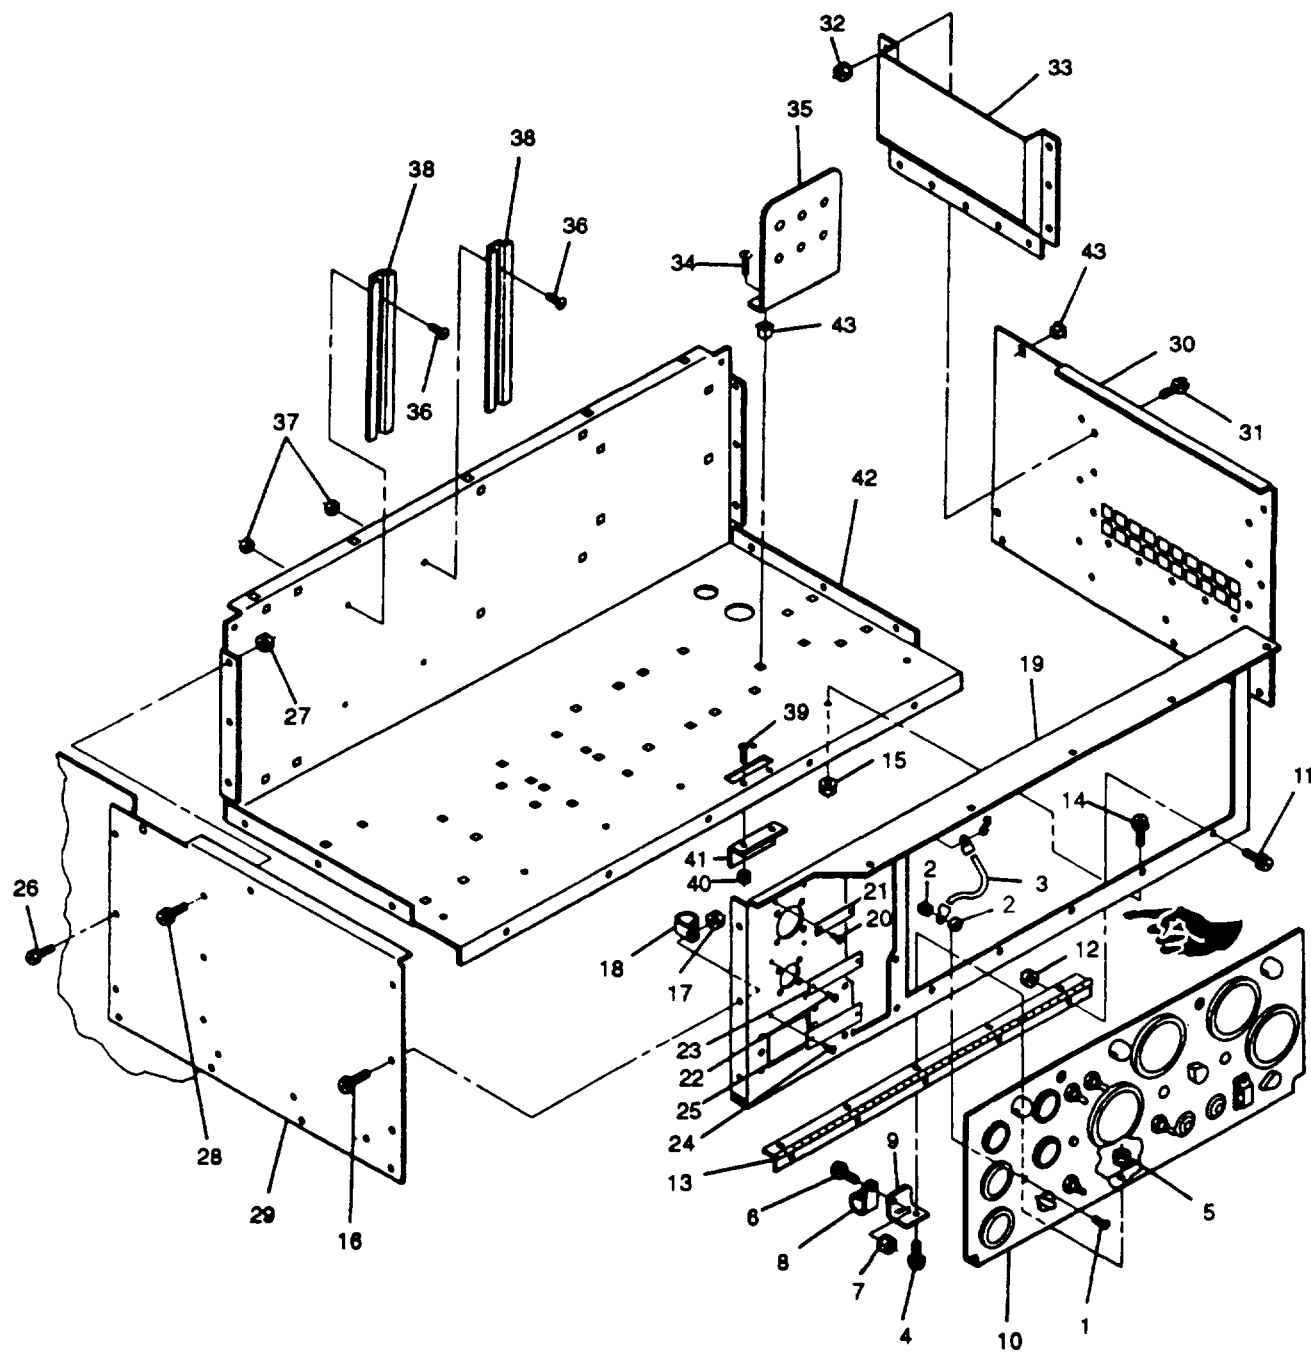

FIGURE 2-19. Control Box Panels
- Tag and disconnect all electrical leads to remaining indicators and switches on control panel(10,FIGURE2-19).
- Remove screw (1), nut (2), and strap (3).
- Remove bolts (4) and (6), nuts (5) and (7), bracket (9), clamp (8), and control panel (10) from control box assembly.
- Remove bolts (11), nuts (12), and hinge(13) from control box assembly.
Inspect control panel (10, FIGURE 2-19) for dents, cracks, loose paint, and corrosion.
Inspect control panel frame (19, FIGURE 2-19) for dents, cracks, loose paint, and corrosion.
- a. Install control panel frame (19, FIGURE 2-19) and clamp (18) to control box assembly with bolts (14) and (16) and nuts (15) and (17).
- b. If removed, install identification plates (21), (23), and (25) on rear panel (19) with pop rivets (20), (22), and (24).
- d. Remove bolts (16, 26, and 28, FIGURE 2-19), nuts (17) and (27), and control box side panels (29) and (30) from generator set.
- e. Remove bolts (31), nuts (32), and air deflector (33) from side panel (30).
- a. Inspect side panels (29 and 30, FIGURE 2-19) and air deflector (33) for dents, cracks, loose paint, and corrosion.
- b. Inspect for missing or damaged cage nuts (43).
- b. Install air deflector (33) on control box side panel (30) with bolts (31) and nuts (32).
- c. Install control box side panels (29 and 30, FIGURE 2-19) on generator set with bolts (16), (26), and (28) and nuts (17) and (27). Ensure center bolt (16) and nut (17) on left side panel secures clamp (18).
- h. Remove screws (34, FIGURE 2-19) and bracket (35) from control box bottom (42).
- i. Remove screws (36), nuts (37), and relay tracks (38) from control box bottom (42).
- j. Remove screws (39), nuts (40), and latch plate (41) from control box bottom (42).
- a. Inspect control box bottom (42, FIGURE 2-19) for dents, cracks, loose paint, and corrosion.
- a. Install latch plate (41, FIGURE 2-19) on control box bottom (42) with screws (39) and nuts (40).
- b. Install relay tracks (38) on control box bottom (42) with screws (36) and nuts (37).
- c. Install bracket (35) on control box bottom (42) with screws (34).